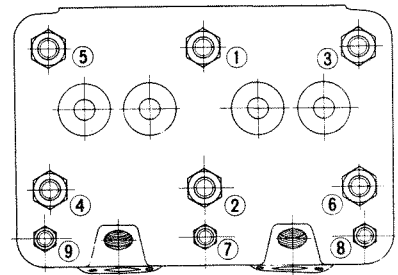
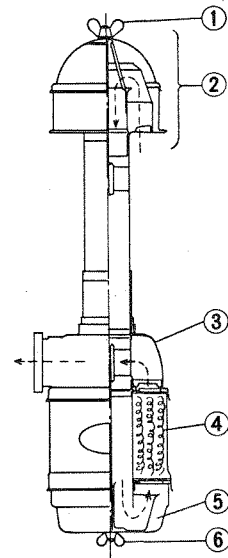

Fig. 23 Order of tightening Cylinder Head
Fig. 24 Structure of Air Cleaner
- ② At the time of tightening the cylinder head nuts, be sure to tighten the nuts uniformly. To do this, tighten the nuts in the order of 1 2 3 6 a little at a time very carefully. At the end tighten nuts 7 8 9 securely. (Refer to Fig. 23)
- ③ It is necessary to retighten if the tractor is to be used for a long period of time. After retightening the bolts, be sure to adjust the valves to the correct clearance as related in previous section.
- ④ If the cylinder gasket has been exchanged for new gaskets, check the top clearance as related above. After working for one or two hours, be sure to retighten. Make correct adjustments of the valve clearance as related above.
⑤ The structure of the air cleaner is an shown in Fig. 24
As illustrated in Fig. 24, large dust and dirt in the air is first filtered in the cyclone ② which is in the upper part and then again filtered by the oil pan ⑤ which is in the lower part by shaking. Furthermore, small dust and dirt are filtered by the filter netting assembly ④. Oil should be filled until it reaches the lower line of the "oil level line".